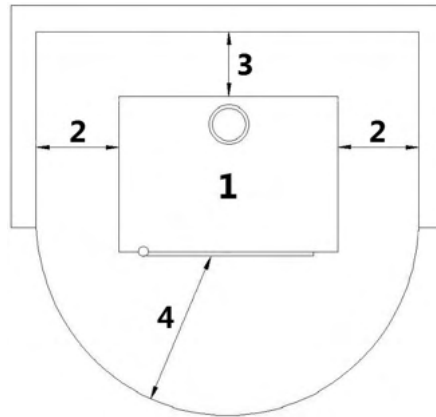

Fig. 31 - General installation
LEGEND	Fig. 31
- It is obligatory to install the stove away from walls and/or pieces of furniture, with a minimum air flow of 300 mm on the sides and 200 mm on the back, to enable an efficient appliance cooling and a good distribution of heat in the room (see Fig. 31).
- If the walls are made up of flammable materials, check the safety distances (see Fig. 31).